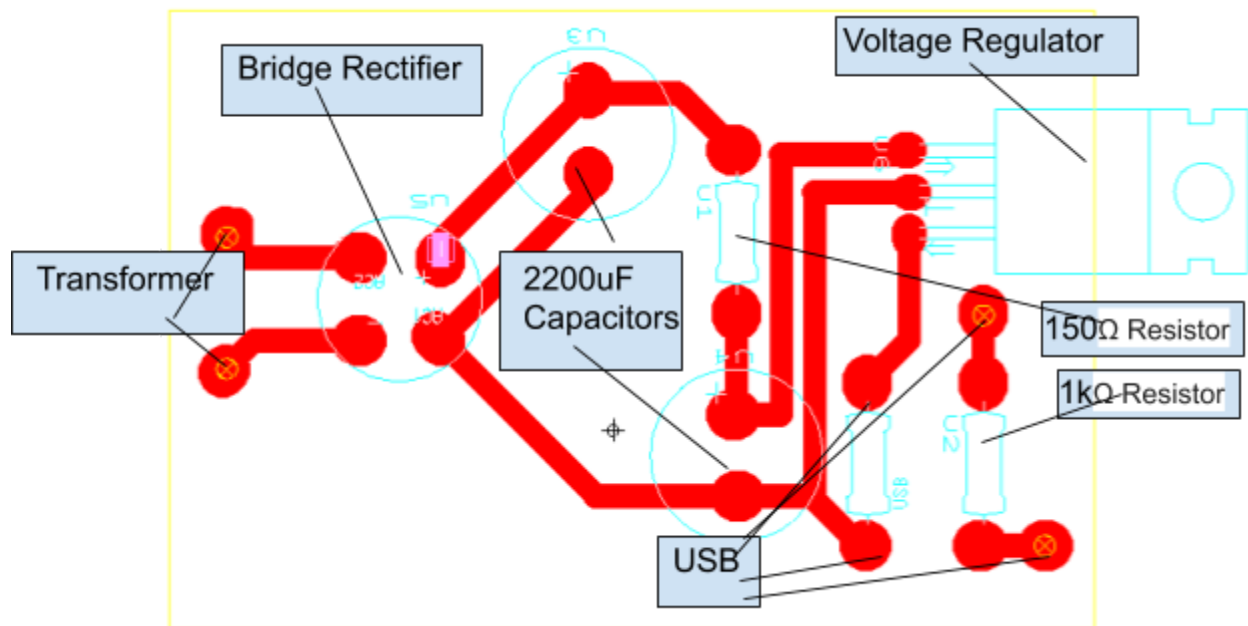

Figure 2-1
1. Solder all the components to the PC board's corresponding labels in Figure 2-1 excluding the fuse and out plug.
5. Solder the outlet to the PC board's corresponding labels in Figure 2-1.